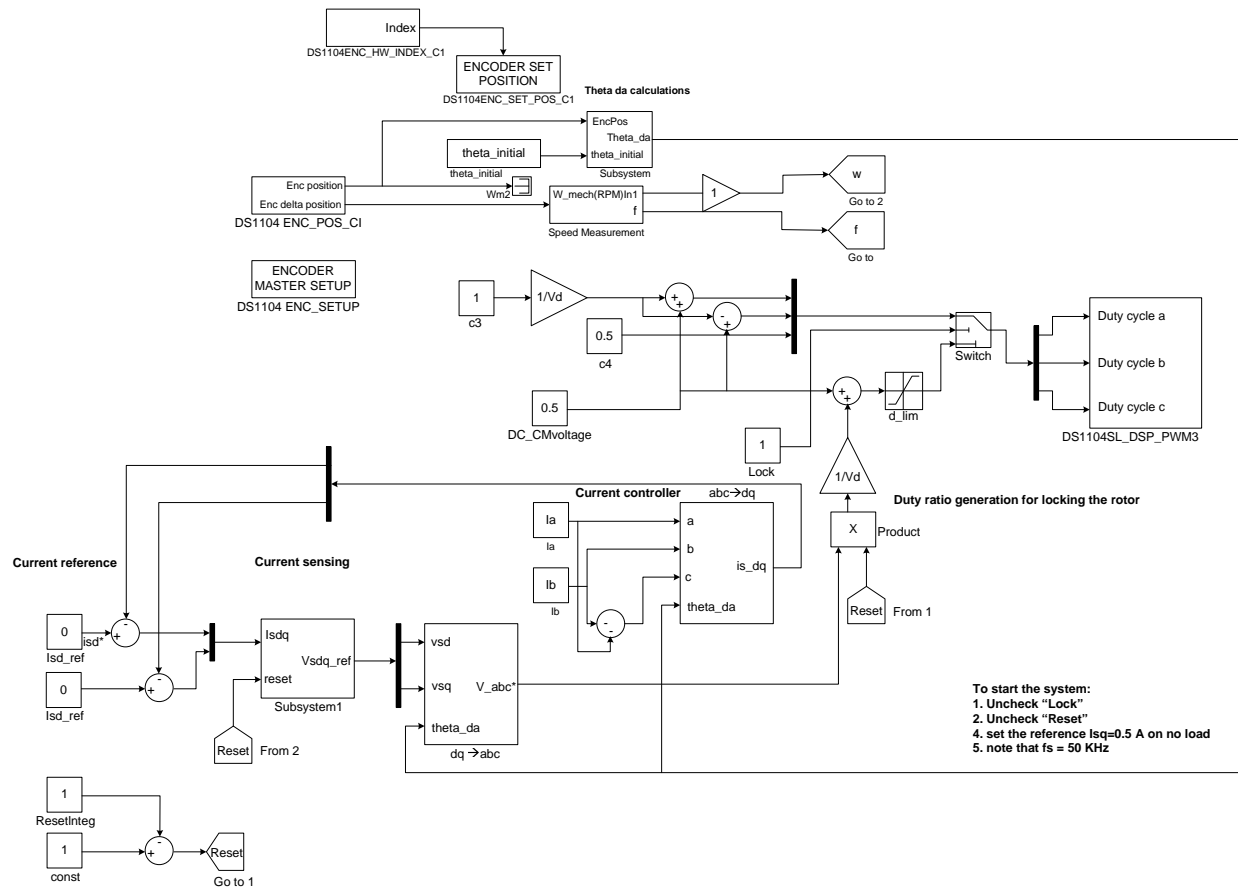

Figure 7.7: Simulation model PMAC_current.mdl
The equivalent circuit of the PMAC motor after dq transformation is shown in Fig. 7.5(a). The parameters of the motor are listed in Table. 1. The current and speed controllers can be designed using the steps in experiment 5. Or use the controller values given in Table. 2. The simulink model for current control of PMAC motor is Fig 7.7 .The angle θ_{da} is calculated using the enc_position and θ_{initial} . If θ_{initial} is set to $\theta_{\text{da}+}$ or $\theta_{\text{da}-}$, the d axis is aligned along the rotor axis. Before running the PMAC motor, the rotor is initialized to a known
- Open the file **PMAC_current.mdl**. Obtain the values for K_p_i and K_i_i from Table. 2. of this experiment. Enter the values of K_p_i , K_i_i , $\theta_{initial}$, $V_d=42$, $\text{poles}=4$ and $T_s=1e-4$ at the MATLAB command prompt. The model can be seen in Fig 7.7.